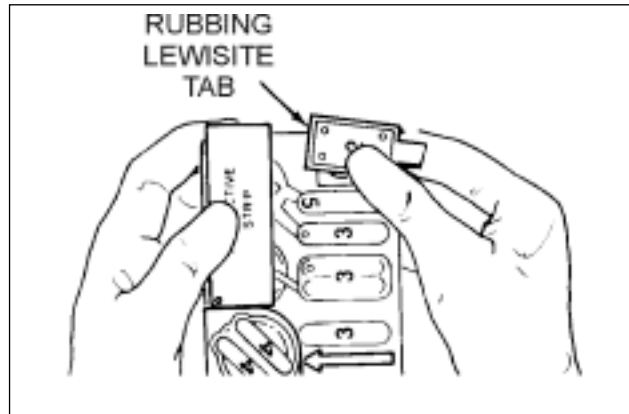

Fig 4-20. Rubbing lewisite tablet again.
- (18) Rub the lewisite detecting tablet.
- (b) Rub the bottom half of the tab until a mark is visible (fig 4-20).